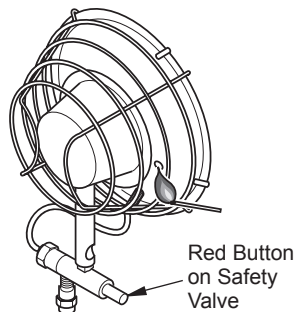

Figure 6 - Lighting Heater With a Match
2. Repeatedly push and release the piezo ignitor (dual burner), or place a lighted match near the face of the heating element (mesh screen) of the burner you are lighting, using the hole located on the side of the reflector. See Figure 6.
3. Depress the red button on the safety valve admitting gas to the burner (see Figure 6, page 5).